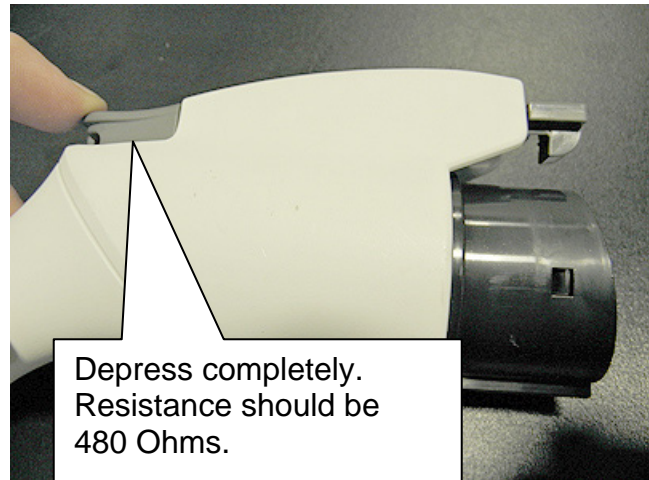

Figure 7
- With the EVSE charge connector button (Figure 7) depressed resistance should be 480 Ohms.